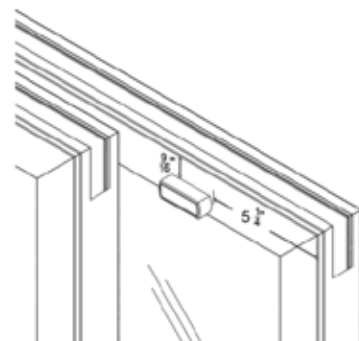

Figure 27
1. Come-alongs are placed on the inside of each operable panel. 5-1/4" from the right side of the panel and 9/16" down from the top of the panel to the edges of the come-along base (Figure 27). Locate placement for pilot holes prior to drilling (Item 26). From top of panel, hole center is 15/16". Attach the come-along using two screws (Item 45). Snap the panel come-along cover onto the base.
WARNING: Do not install panel come-alongs in any other area than shown in Figure 27; doing so could cause damage to the frame or glass. Using screws longer than .75" can cause interference or operational problems.